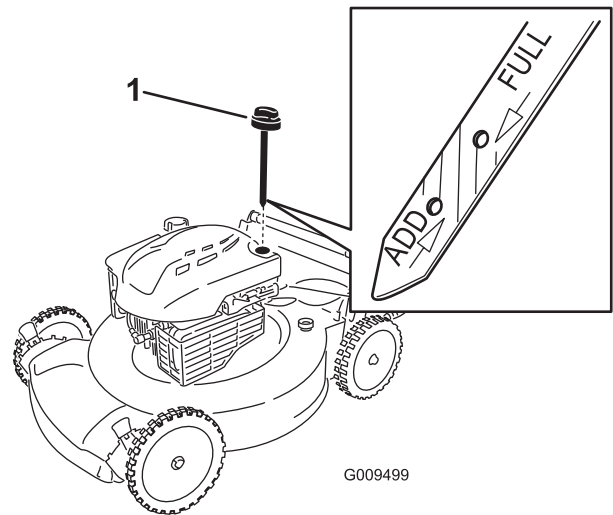

Figure 25
6. Remove the dipstick from the oil-fill tube (Figure 25).